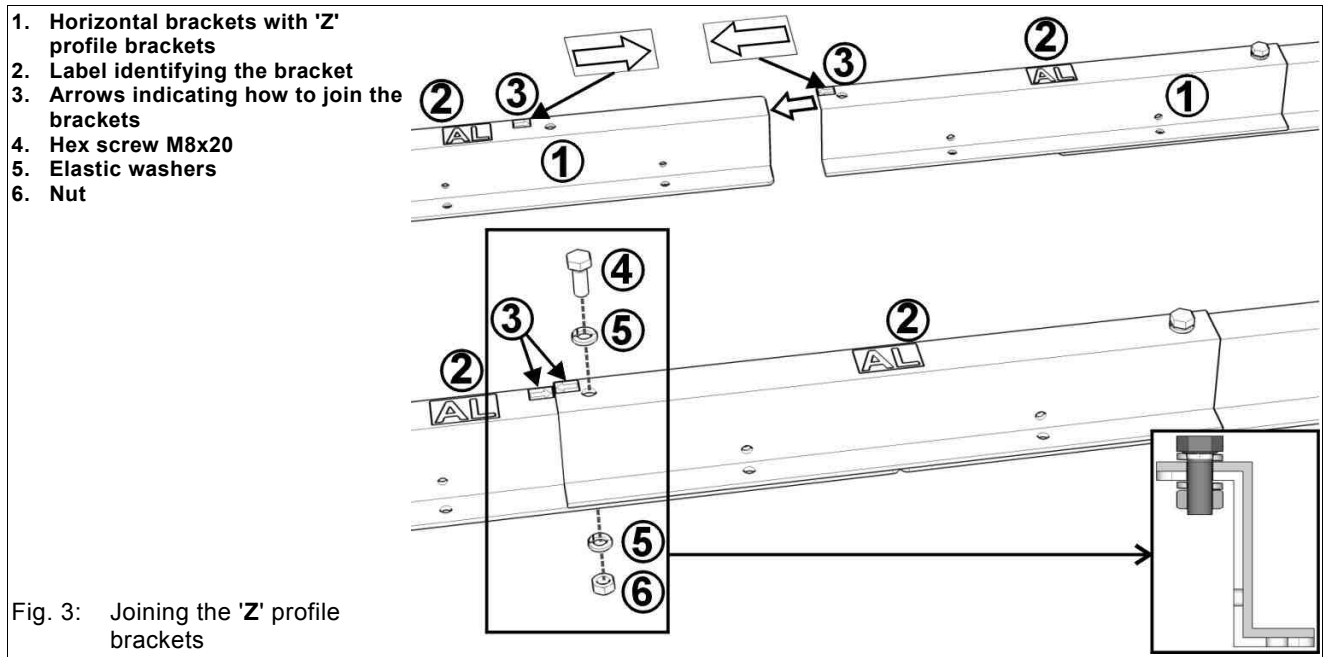

Fig. 3: Joining the 'Z' profile brackets
If the scoreboard is less than 200cm wide, go to point 3. If the scoreboard is wider than 200cm, there are multiple brackets with the same lettering that should be joined in order to obtain the desired width of the scoreboard. In such a case, see Fig. 3:
- Position two brackets having the same label in such a way that the arrows ③ on them face each other.
- Fit one bracket into the other by slotting the parts together until the two arrows ③ touch.
- Join the brackets via a **M8x20** hex screw, two washers and nut (Tightening torque: 20Nm – See Fig. 3).